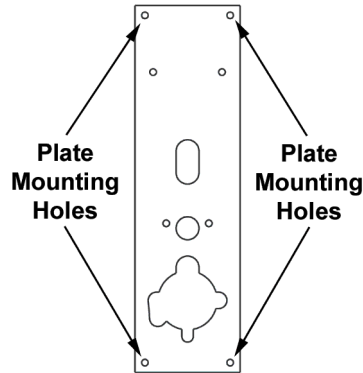

Figure 2-15 - Transceiver Scar/Push Plate Mounting Holes
- 2.5.1.2.13 While holding the Transceiver Scar/Push Plate in position, mark the four mounting holes located in the four corners of the Plate (Figure 2-15).